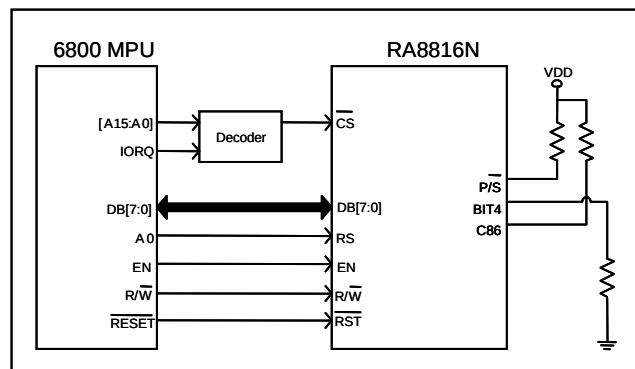

Figure 5-2 : 6800 MPU 8-Bit Mode
2. 6800 MPU 8-Bit Parallel Mode. See Figure 5-2.